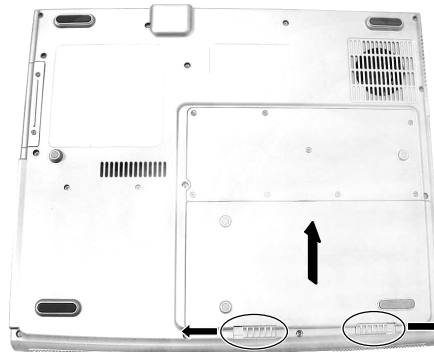

Figure 2-1 Remove the battery pack
2. Slide the two release lever to the “unlock” (☐) position (❶), then sliding and holding the release lever outwards while take the battery pack out of the compartment (❷). (Figure 2-1)